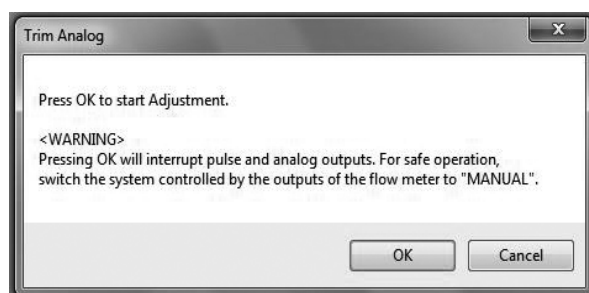

Fig. 3-70
- (3) By clicking "OK" button, the message box (Fig. 3-70) will be displayed. To adjust the analog output, click "OK" button.
By clicking "OK" button, Fig. 3-70 will be displayed in the same manner. To execute the analog output adjustment, click "OK" button. Additionally, click "OK" button to start the adjustment. Connect a measuring instrument (reference voltmeter) across both ends of load resistance R_L .